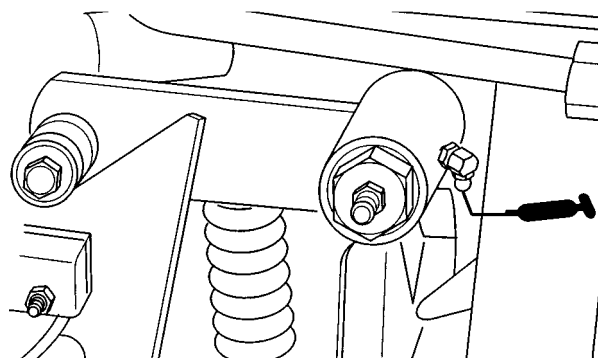
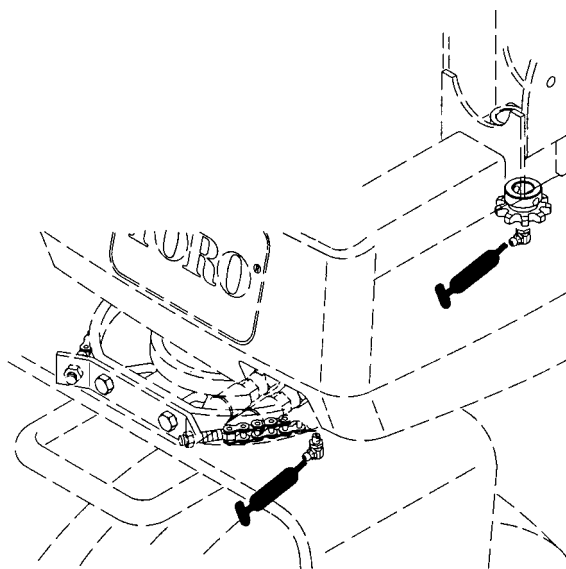
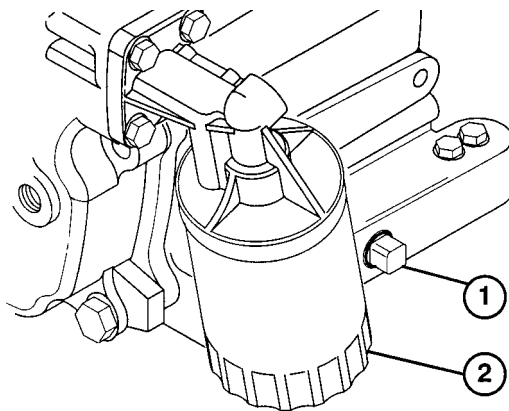

Figure 12
Figure 13
Figure 14
The bearings and bushings that must be lubricated are: the front wheel bearing (Fig. 12), the traction control linkage (Fig. 13) and steering shaft (Fig. 14).
Note: To gain access to the grease fitting on the traction control linkage (Fig. 13), remove the (3) screws securing the side panel to the right side of the machine and remove the panel.